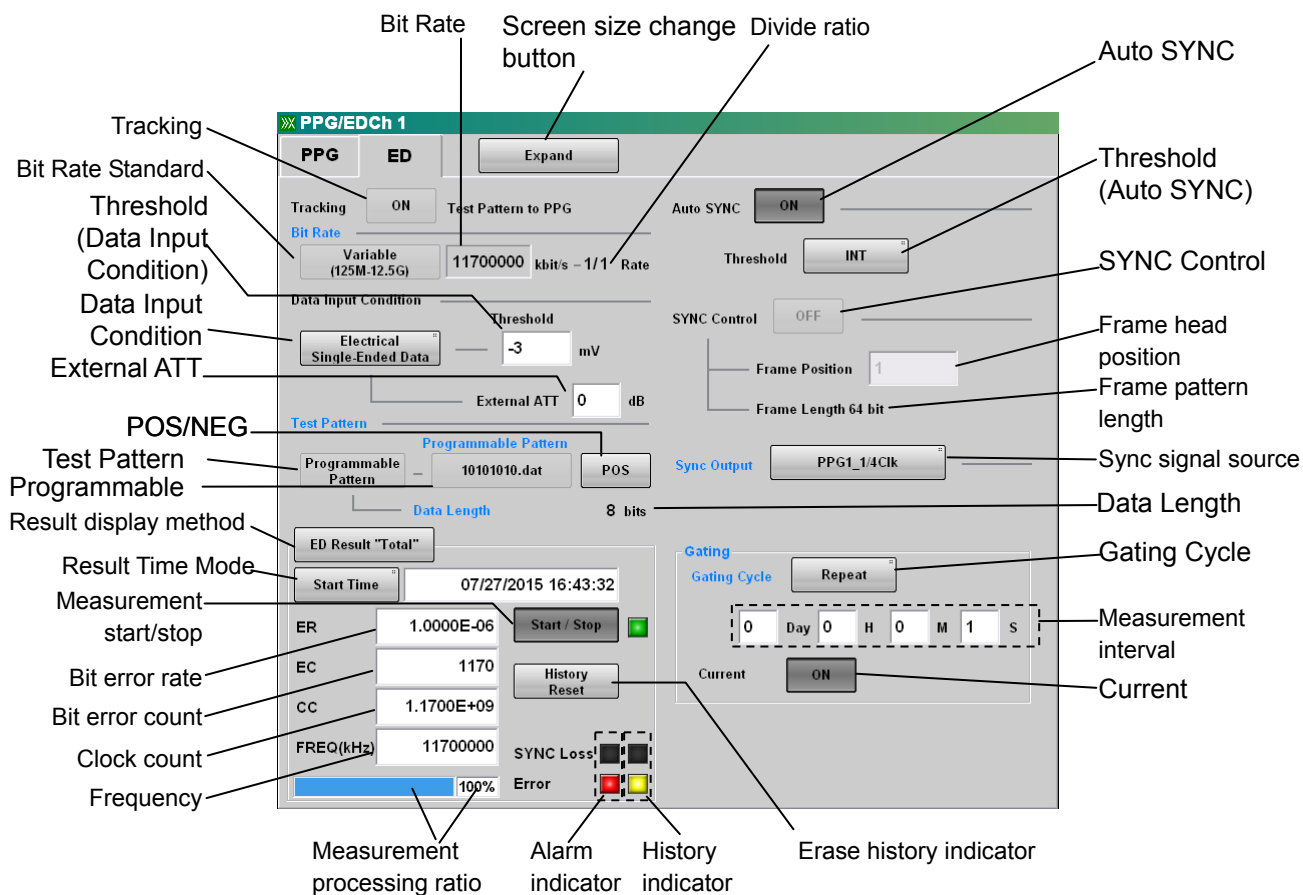

Figure 6.1-2 ED Setting Panel (Details)
3. Touch [Main] to display the screen as shown in Figure 6.1-2.